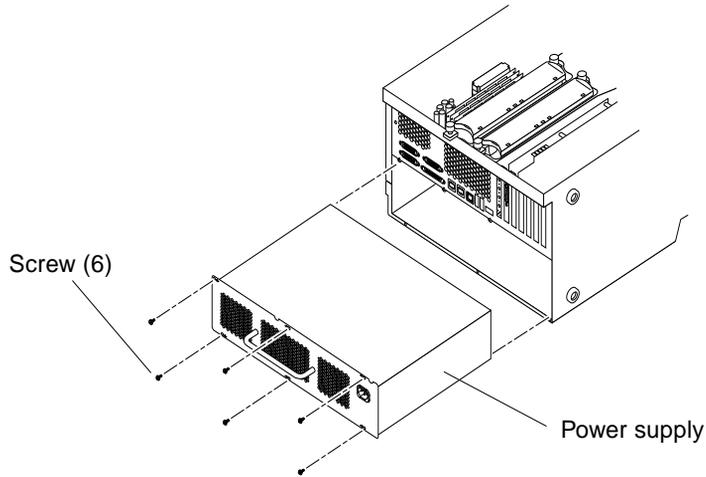

FIGURE 6-3 Removing and Replacing the Connectors for the Power Supply Assembly
4. **Using a No. 2 Phillips screwdriver, remove the six screws securing the power supply assembly to the chassis back panel (FIGURE 6-3).**
- 7. Using a No. 2 Phillips screwdriver, replace the six screws securing the power supply assembly to the chassis back panel (FIGURE 6-3).**